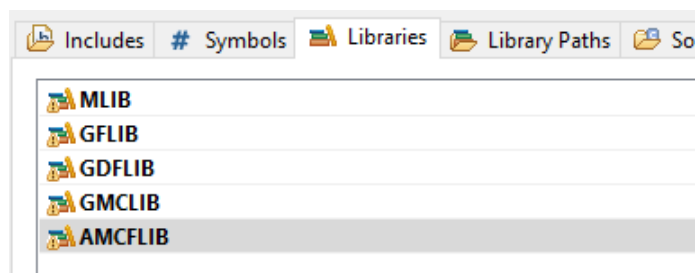

Figure 1-11. Libraries
15. After adding the library paths, add the library files. Click the Libraries tab. See Figure 1-11.
26. Click OK, and you will see the libraries added in the list. See Figure 1-11.